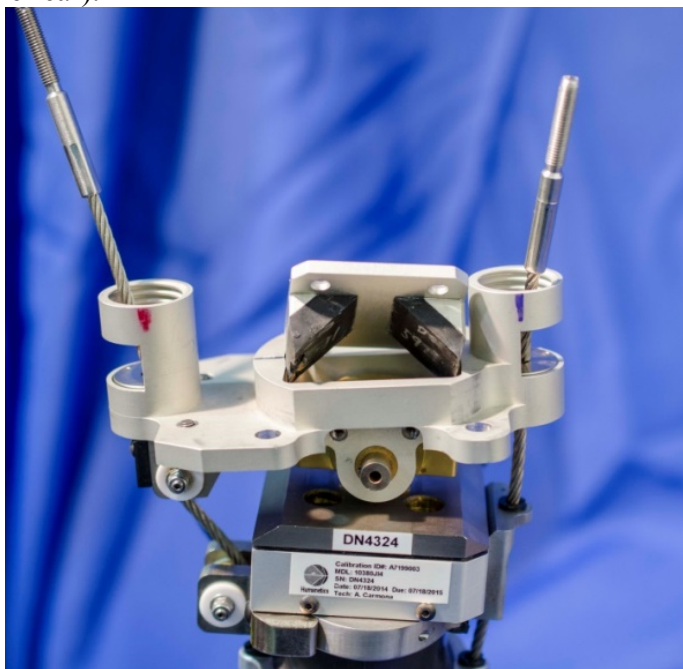
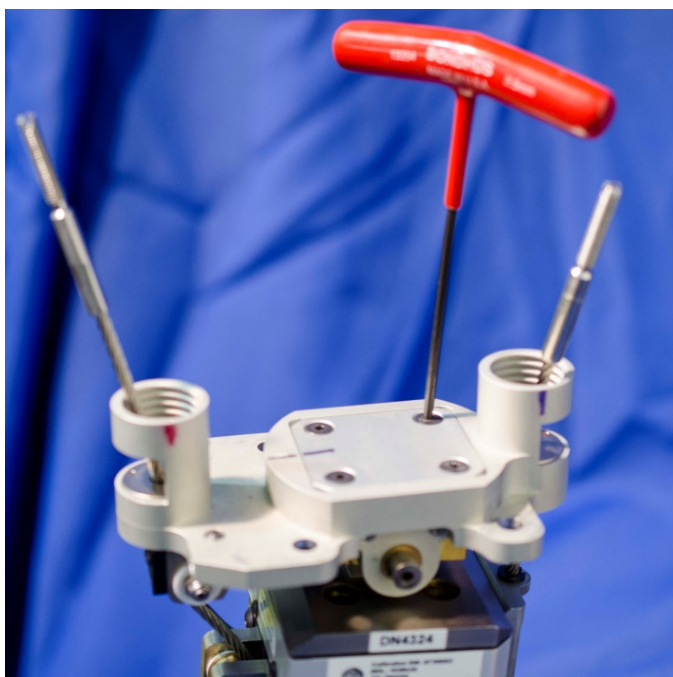

Figure 4-36. Place O.C. stop assembly into head/neck mounting platform
Figure 4-37. Secure nodding block screws
4.2.2.24 Insert the O.C. Stop Assembly (472-2105) into the head/neck mounting platform and secure with four M4 x 10 FHCS (Figure 4-36 and Figure 4-37). Assure that the assembly is properly oriented (the thicker nodding block is towards the rear).